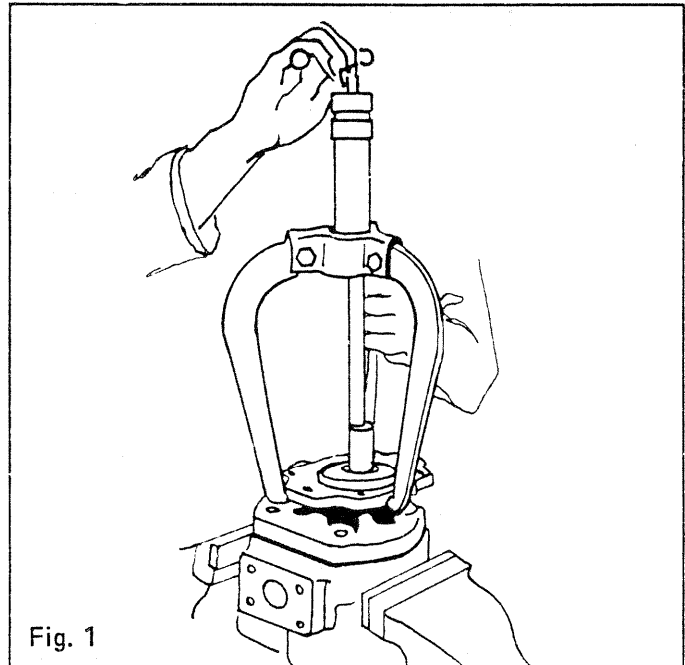

Fig. 1
1. Remove capscrews (17) and lockwashers (16)
2. Cover/housing (15) and adapter (5) can now be separated.
A. As illustrated in fig. 1
1. Discard seal plates that have score marks, heavy wear pattern or show erosion marks indicating cavitation or aerated oil condition. See fig. 1.
Figs. 1 and 2 give you the dimensions needed to have drivers made by any nearby shop. (Not available from Hydreco.)